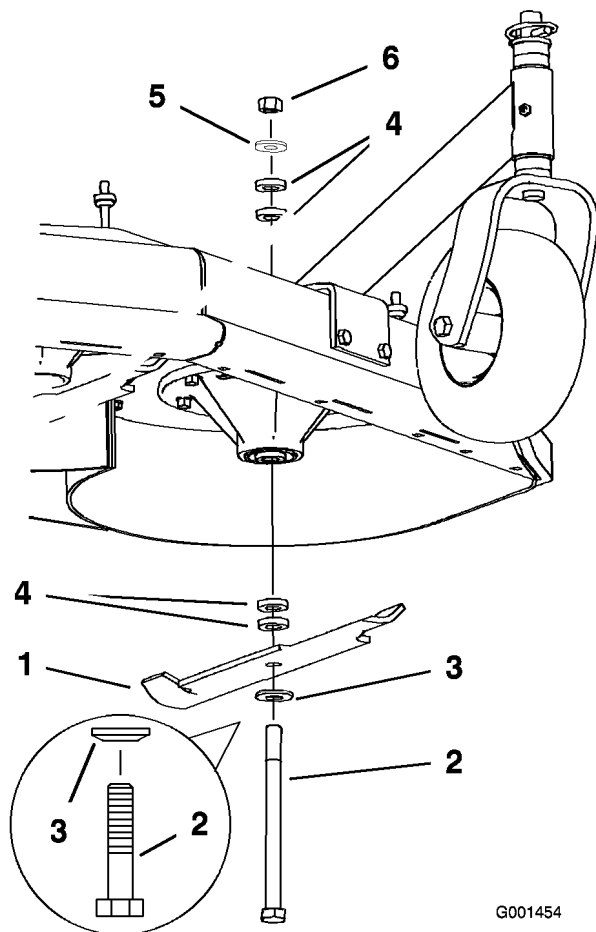

Figure 18
4. Hold the blade bolt and remove the nut. Slide the bolt down through the spindle, and change the spacers as needed (Figure 18).
5. Install the bolt, curved washer, blade, add extra spacers, and secure them with a thin washer and a nut (Figure 18).